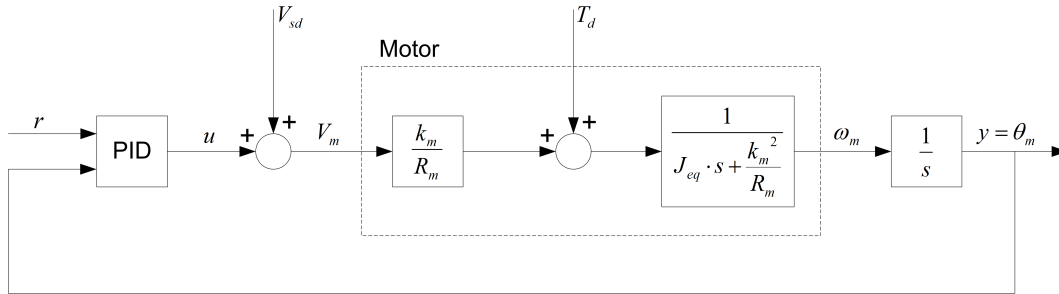
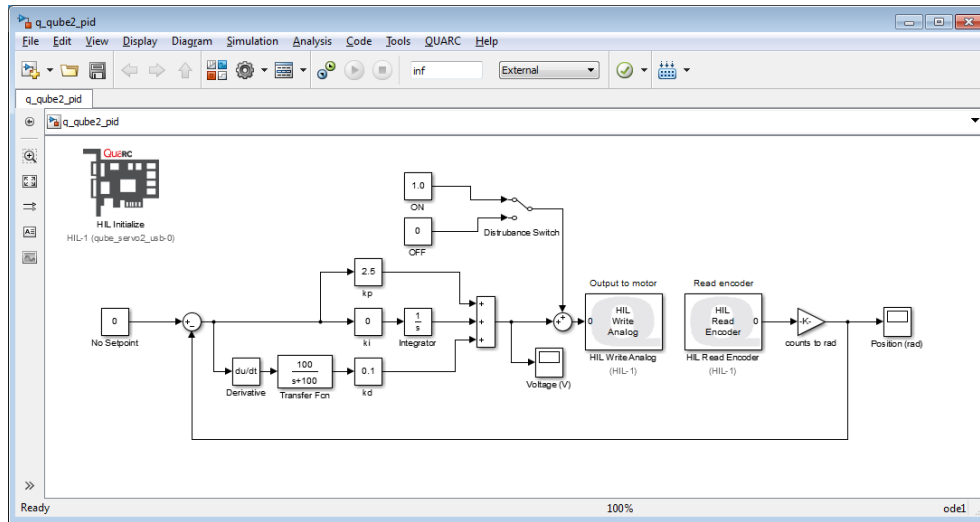

Figure 1.1: QUBE-Servo 2 PID closed-loop position control
Figure 2.1: Implements PID position control and adds simulated disturbance
The closed-loop position control system of the QUBE-Servo 2 using PID can be represented by the block diagram shown in Figure 1.1. The motor has motor voltage  $V_m$  and torque  $T_d$  as inputs and motor angle  $\theta_m$  as the output. The torque is typically a disturbance torque that you apply manually to the inertial load.  $V_{sd}$  is a simulated external disturbance voltage that is applied through software.
Based on the model in the QUBE-Servo 2 PD Control laboratory experiment, design a QUARC controller that controls the position of the servo using a PID compensator and can apply a simulated voltage,  $V_{sd}$ , to the motor. See the example given in Figure 2.1 as well as the full block diagram in Figure 1.1.
5. Open the QUARC controller shown in Figure 2.1 to experimentally evaluate the steady-state angle of the QUBE-Servo 2 when a simulated disturbance voltage is applied. Use the QUARC controller to apply a simulated disturbance of  $V_{sd} = 1$  V when using a PD controller with gains  $k_p = 2.5$  and  $k_d = 0.1$ . Attach the position response as well as the motor voltage used.